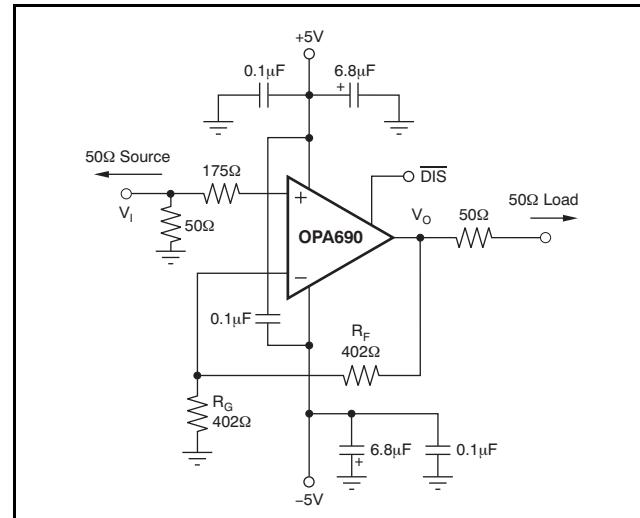
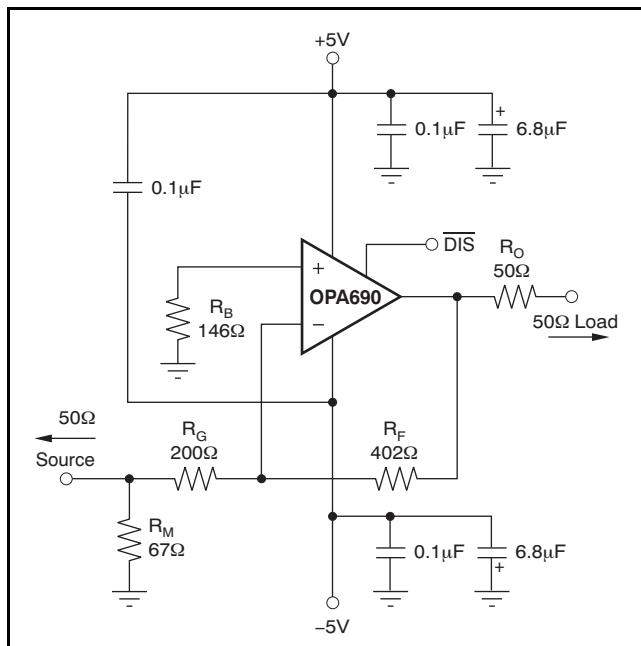

Figure 36. DC-Coupled,  $G = +2$ , Bipolar-Supply Specification and Test Circuit
Figure 43. Gain of –2 Example Circuit
At  $T_A = +25^\circ\text{C}$ ,  $G = +2$ ,  $R_F = 402\Omega$ , and  $R_L = 100\Omega$  (see Figure 36 for ac performance only), unless otherwise noted.
Figure 36 shows the dc-coupled, gain of +2, dual power supply circuit configuration used as the basis of the  $\pm 5V$  *Electrical Characteristics* and *Typical Characteristics*. For test purposes, the input impedance is set to  $50\Omega$  with a resistor to ground and the output impedance is set to  $50\Omega$  with a series output resistor. Voltage swings reported in the specifications are taken directly at the input and output pins, while output powers (dBm) are at the matched  $50\Omega$  load. For the circuit of Figure 36, the total effective load will be  $100\Omega \parallel 804\Omega$ . The disable control line is typically left open to ensure normal amplifier operation. Two optional components are included in Figure 36. An additional resistor ( $175\Omega$ ) is included in series with the noninverting input. Combined with the  $25\Omega$  dc source resistance looking back towards the signal generator, this gives an input bias current cancelling resistance that matches the  $200\Omega$  source resistance seen at the inverting input (see the *DC Accuracy and Offset Control* section). In addition to the usual power-supply decoupling capacitors to ground, a  $0.1\mu F$  capacitor is included between the two power-supply pins. In practical printed circuit board (PCB) layouts, this optional-added capacitor will typically improve the 2nd-harmonic distortion performance by 3dB to 6dB.
A good rule of thumb is to target the parallel combination of  $R_F$  and  $R_G$  (see Figure 36) to be less than approximately  $300\Omega$ . The combined impedance  $R_F \parallel R_G$  interacts with the inverting input capacitance, placing an additional pole in the feedback network and thus, a zero in the forward response. Assuming a  $2\text{pF}$  total parasitic on the inverting node, holding  $R_F \parallel R_G < 300\Omega$  will keep this pole above  $250\text{MHz}$ . By itself, this constraint implies that the feedback resistor  $R_F$  can increase to several  $\text{k}\Omega$  at high gains. This is acceptable as long as the pole formed by  $R_F$  and any parasitic capacitance appearing in parallel is kept out of the frequency range of interest.
Voltage-feedback op amps exhibit decreasing closed-loop bandwidth as the signal gain is increased. In theory, this relationship is described by the Gain Bandwidth Product (GBP) shown in the Electrical Characteristics. Ideally, dividing GBP by the noninverting signal gain (also called the Noise Gain, or NG) will predict the closed-loop bandwidth. In practice, this only holds true when the phase margin approaches  $90^\circ$ , as it does in high gain configurations. At low gains (increased feedback factors), most amplifiers will exhibit a more complex response with lower phase margin. The OPA690 is compensated to give a slightly peaked response in a noninverting gain of 2 (see Figure 36). This results in a typical gain of +2 bandwidth of  $220\text{MHz}$ , far exceeding that predicted by dividing the  $300\text{MHz}$  GBP by 2. Increasing the gain will cause the phase margin to approach  $90^\circ$  and the bandwidth to more closely approach the predicted value of (GBP/NG). At a gain of +10, the  $30\text{MHz}$  bandwidth shown in the Electrical Characteristics agrees with that predicted using the simple formula and the typical GBP of  $300\text{MHz}$ .
The frequency response in a gain of +2 may be modified to achieve exceptional flatness simply by increasing the noise gain to 2.5. One way to do this, without affecting the +2 signal gain, is to add an  $804\Omega$  resistor across the two inputs in the circuit of Figure 36. A similar technique may be used to reduce peaking in unity-gain (voltage follower) applications. For example, by using a  $402\Omega$  feedback resistor along with a  $402\Omega$  resistor across the two op amp inputs, the voltage follower response will be similar to the gain of +2 response of Figure 37. Reducing the value of the resistor across the op amp inputs will further limit the frequency response due to increased noise gain.
Since the OPA690 is a general-purpose, wideband voltage-feedback op amp, all of the familiar op amp application circuits are available to the designer. Inverting operation is one of the more common requirements and offers several performance benefits. Figure 43 shows a typical inverting configuration where the I/O impedances and signal gain from Figure 36 are retained in an inverting circuit configuration.
100Ω feedback resistor. This has the interesting advantage that the noise gain becomes equal to 2 for a 50Ω source impedance—the same as the noninverting circuits considered in the previous section. The amplifier output, however, will now see the 100Ω feedback resistor in parallel with the external load. In general, the feedback resistor should be limited to the 200Ω to 1.5kΩ range. In this case, it is preferable to increase both the  $R_F$  and  $R_G$  values, as shown in Figure 43, and then achieve the input matching impedance with a third resistor ( $R_M$ ) to ground. The total input impedance becomes the parallel combination of  $R_G$  and  $R_M$ .
The second major consideration, touched on in the previous paragraph, is that the signal source impedance becomes part of the noise gain equation and influences the bandwidth. For the example in Figure 43, the  $R_M$  value combines in parallel with the external 50Ω source impedance, yielding an effective driving impedance of  $50\Omega \parallel 67\Omega = 28.6\Omega$ . This impedance is added in series with  $R_G$  for calculating the noise gain (NG). The resultant NG is 2.8 for Figure 43, as opposed to only 2 if  $R_M$  could be eliminated as discussed above. The bandwidth will therefore be slightly lower for the gain of ±2 circuit of Figure 43 than for the gain of +2 circuit of Figure 36.
The third important consideration in inverting amplifier design is setting the bias current cancellation resistor on the noninverting input ( $R_B$ ). If this resistor is set equal to the total dc resistance looking out of the inverting node, the output dc error, due to the input bias currents, will be reduced to (Input Offset Current)  $\times R_F$ . If the 50Ω source impedance is dc-coupled in Figure 43, the total resistance to ground on the inverting input will be 228Ω. Combining this in parallel with the feedback resistor gives the  $R_B = 146\Omega$  used in this example. To reduce the additional high-frequency noise introduced by this resistor, it is sometimes bypassed with a capacitor. As long as  $R_B < 350\Omega$ , the capacitor is not required because the total noise contribution of all other terms will be less than that of the op amp input noise voltage. As a minimum, the OPA690 requires an  $R_B$  value of 50Ω to damp out parasitic-induced peaking—a direct short to ground on the noninverting input runs the risk of a very high-frequency instability in the input stage.
The OPA690 provides good distortion performance into a  $100\Omega$  load on  $\pm 5V$  supplies. Relative to alternative solutions, it provides exceptional performance into lighter loads and/or operating on a single  $+5V$  supply. Generally, until the fundamental signal reaches very high frequency or power levels, the 2nd-harmonic dominates the distortion with a negligible 3rd-harmonic component. Focusing then on the 2nd-harmonic, increasing the load impedance improves distortion directly. Remember that the total load includes the feedback network; in the noninverting configuration (see Figure 36), this is sum of  $R_F + R_G$ , while in the inverting configuration it is just  $R_F$ . Also, providing an additional supply-decoupling capacitor ( $0.1\mu F$ ) between the supply pins (for bipolar operation) improves the 2nd-order distortion slightly (3dB to 6dB).
Evaluating these two equations for the OPA690 circuit and component values (see Figure 36) gives a total output spot noise voltage of  $12.3\text{nV}/\sqrt{\text{Hz}}$  and a total equivalent input spot noise voltage of  $6.1\text{nV}/\sqrt{\text{Hz}}$ . This is including the noise added by the bias current cancellation resistor ( $175\Omega$ ) on the noninverting input. This total input-referred spot noise voltage is only slightly higher than the  $5.5\text{nV}/\sqrt{\text{Hz}}$  specification for the op amp voltage noise alone. This will be the case as long as the impedances appearing at each op amp input are limited to the previously recommended maximum value of  $300\Omega$ . Keeping both  $(R_F \parallel R_G)$  and the noninverting input source impedance less than  $300\Omega$  will satisfy both noise and frequency response flatness considerations. Since the resistor-induced noise is relatively negligible, additional capacitive decoupling across the bias current cancellation resistor ( $R_B$ ) for the inverting op amp configuration of Figure 43 is not required.
The balanced input stage of a wideband voltage-feedback op amp allows good output dc accuracy in a wide variety of applications. The power-supply current trim for the OPA690 gives even tighter control than comparable amplifiers. Although the high-speed input stage does require relatively high input bias current (typically  $\pm 8\mu\text{A}$  at each input terminal), the close matching between them may be used to reduce the output dc error caused by this current. The total output offset voltage may be considerably reduced by matching the dc source resistances appearing at the two inputs. This reduces the output dc error due to the input bias currents to the offset current times the feedback resistor. Evaluating the configuration of Figure 36, and using worst-case  $+25^\circ\text{C}$  input offset voltage and current specifications, gives a worst-case output offset voltage equal to:
One key parameter in disable operation is the output glitch when switching in and out of the disabled mode. Figure 49 shows these glitches for the circuit of Figure 36 with the input signal at 0V. The glitch waveform at the output pin is plotted along with the DIS pin voltage.